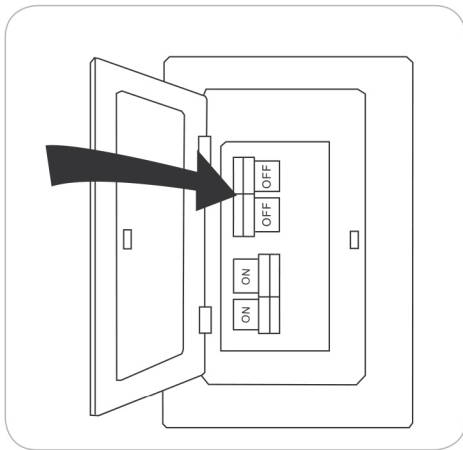

Figure 1.1
1. Turn off power to the fan at the breaker box and the wall switch (Figure 1.1). **DANGER:** Failure to disconnect the power supply prior to installation may result in serious injury or death.
Depending on your room's roof structure: Choose concete ceiling or wooden ceiing mounting bracket screws (Figure 1.1/ Figure 2.2).